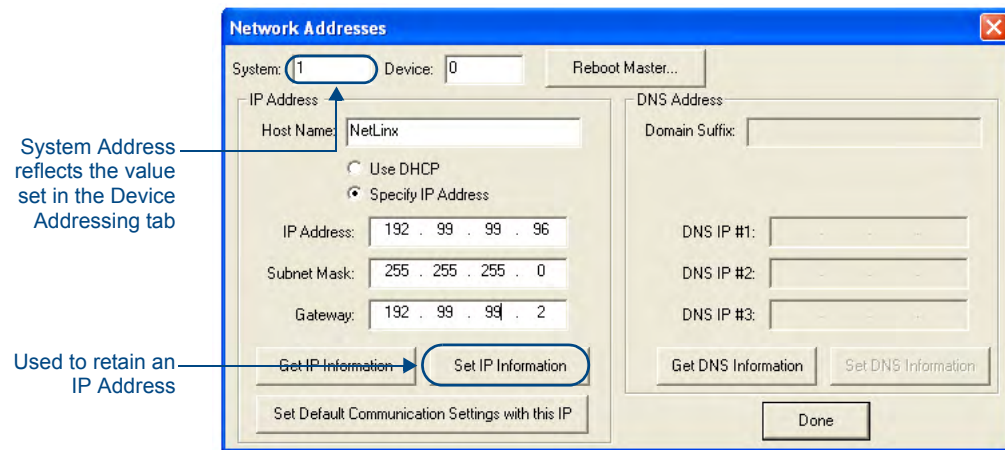

FIG. 3 Network Addresses dialog (for a pre-obtained Static IP Address)
1. In NetLinx Studio, select **Diagnostics > Network Addresses** from the Main menu to access the Network Addresses dialog (FIG. 3).